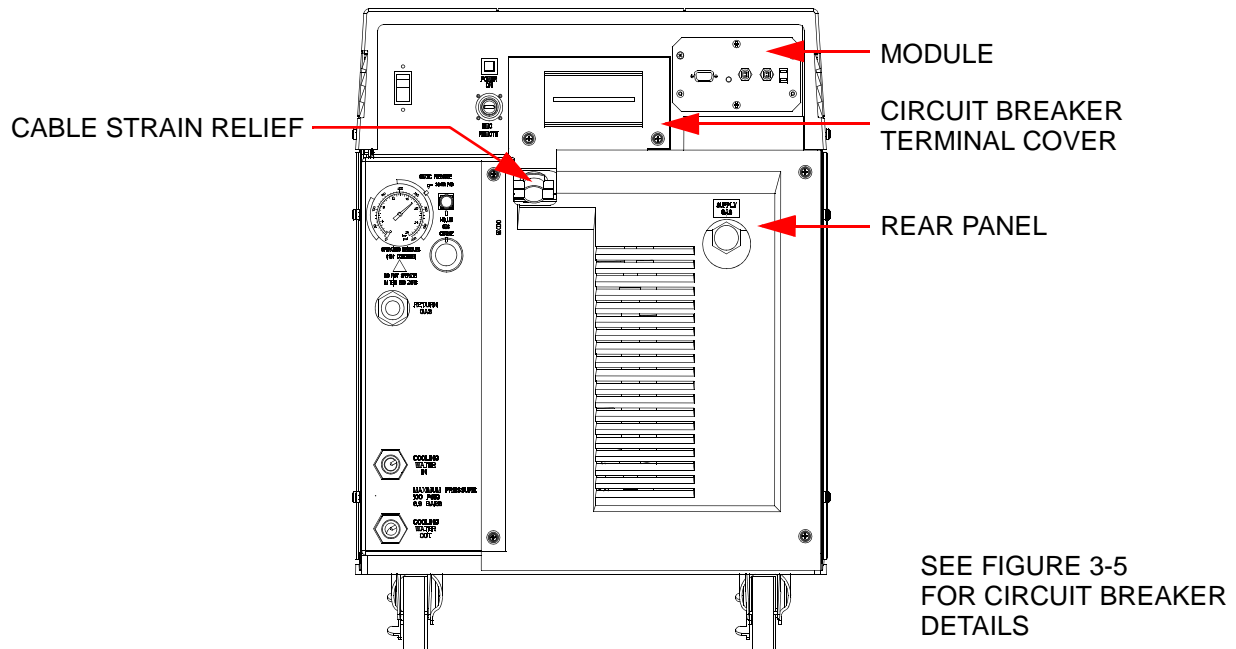

Figure 4-4: On-Board IS 1000 Compressor Connection Covers
5. Remove the rear panel and the circuit breaker terminal cover in Figure 4-4.
6. Thread the conductor cable through the cable strain relief in Figure 4-4.
12. Allow enough cable to stay in the circuit breaker area to prevent strain on the terminal connections, and then tighten the screws on the cable strain relief in Figure 4-4 on page 4-11.
14. Replace the circuit breaker terminal cover from Figure 4-4 on page 4-11.